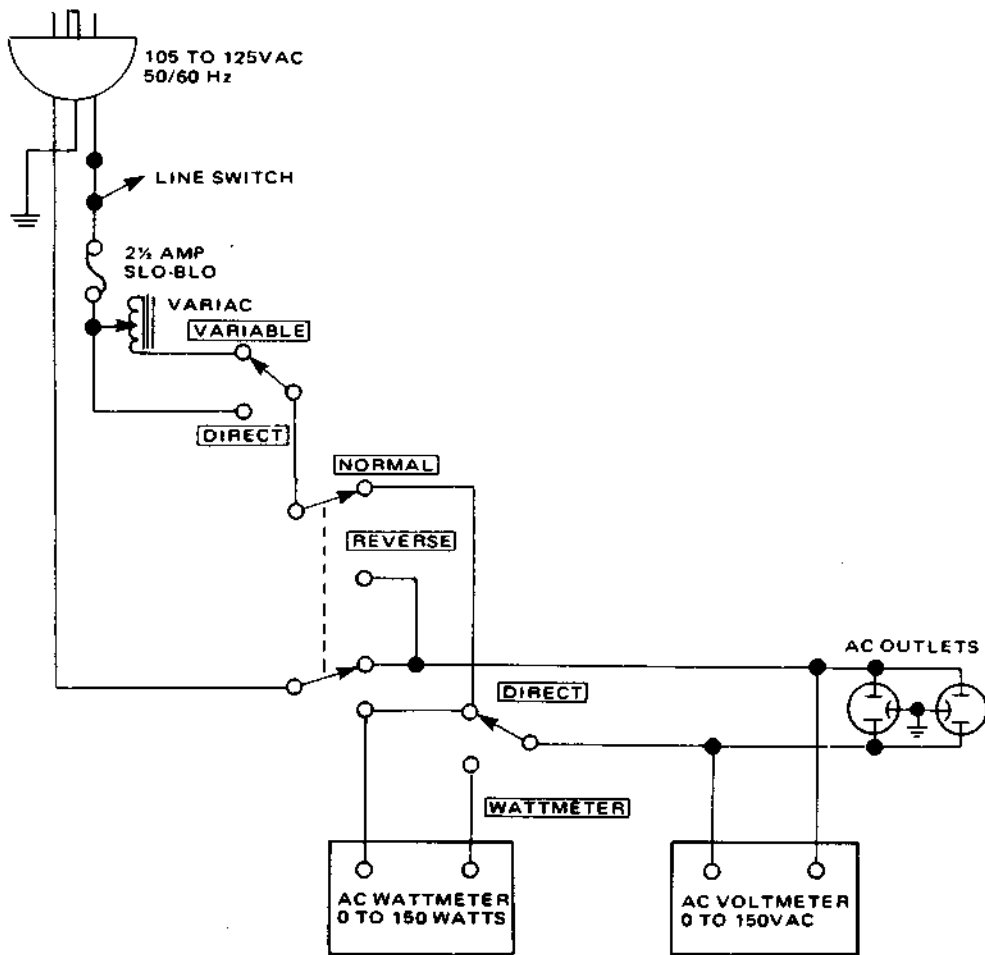
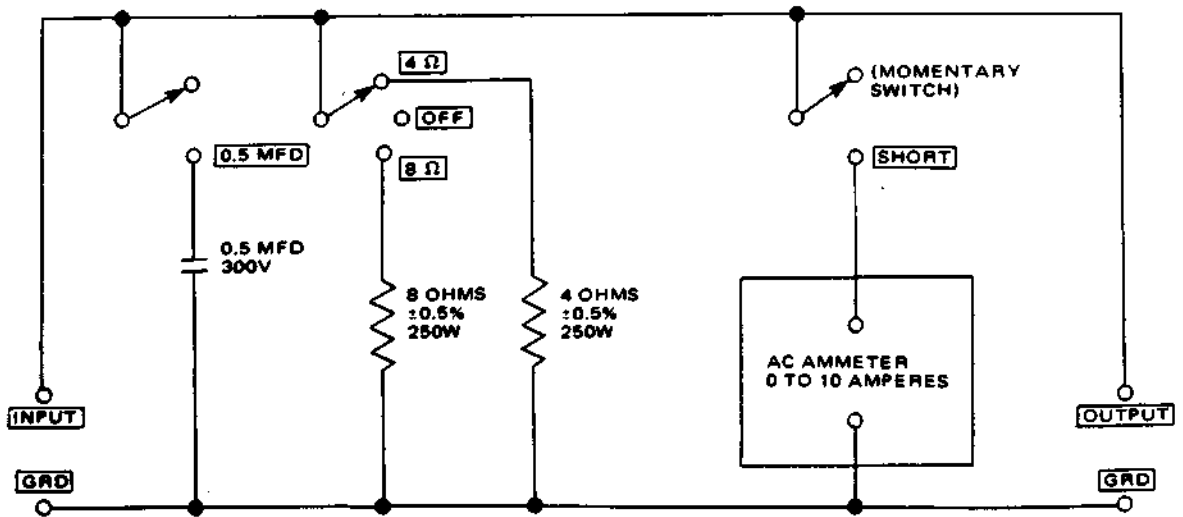

Figure 1. AC Power Control Box Simplified Schematic
Figure 2. Amplifier Output Load Box Simplified Schematic
Table 1 lists the test equipment required for servicing the Model PM350 Stereo Console Amplifier. The wattmeter, AC voltmeter, and variable autotransformer may be assembled as a test fixture as shown schematically in Figure 1. The load resistors and AC ammeter may be assembled into a second test fixture as shown in Figure 2.
1. Make the test setup shown in Figure 1 with the instrument controls set in the following positions:
| AC Power Control Box | Optional Item. Fabricate in accordance with Figure 1 | Monitors and controls primary power for amplifier |
| Amplifier Output Load Box | Optional Item. Fabricate in accordance with Figure 2 | Provides various amplifier loads and can monitor shorted output |